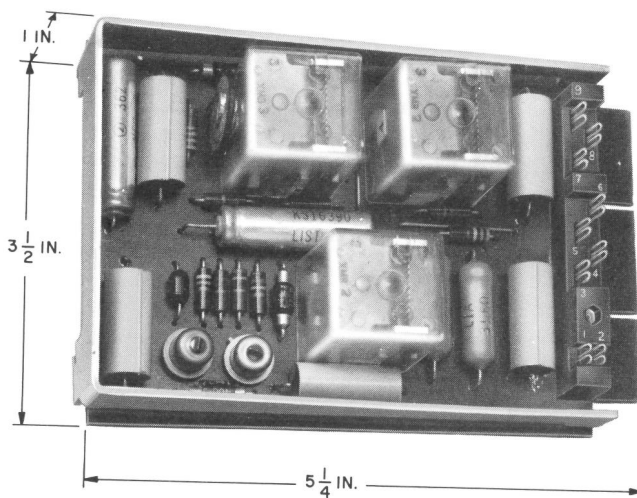

Fig. 1 - 400A Line Circuit Card
2.02 Add individual line circuit cards as required by service order. Before inserting the line cards into the connector board, change wiring options on the 400A KTU if necessary (Fig. 1).